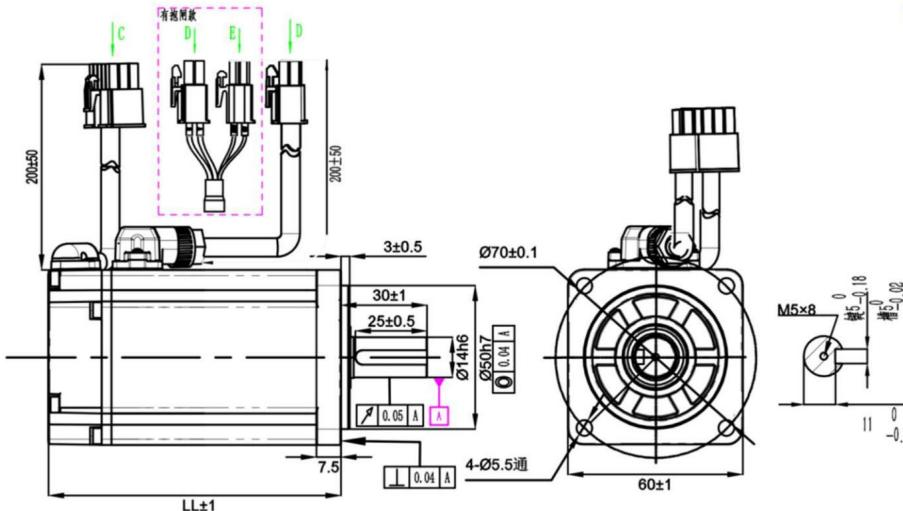

Figure 3.2 60 motor and Table 3-1
- Installation dimensions of 60 flange motor (see Figure 3.2 and Table 3-1)